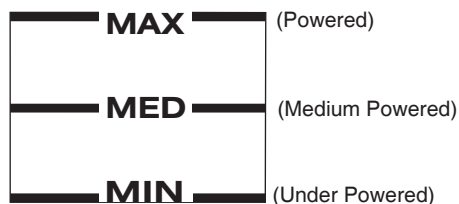

Fig. 3: Downhaul Gauge with suggested settings.
e) Refer to Fig. 3 for which line to use of the downhaul gauge.